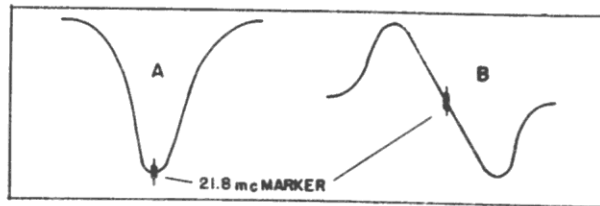

Fig. 10. Audio I-F Curves
**1. Sound I-F Alignment**—The sweep generator is connected through a 500 mmf. capacitor to the grid of the tube preceding the sound i-f coil to be aligned. Connect the oscilloscope through a 100,000-ohm resistor across the resistor, R104, in the limiter tube, V18 grid. Insert a 21.8 mc marker signal from an unmodulated signal generator into the grid of V3. Keep the marker signal attenuated so that it just shows a marker on the sweep curve. Adjust L21 and L5, respectively, as you advance progressively one stage at a time, for maximum gain and symmetry of the response curve about the 21.8 mc marker. The curve should be similar to that shown in Figure 10(A). With input at the 1st audio i-f, V22, the bandwidth should be approximately 500 kc at the 70% response point.
For discriminator alignment, the secondary core of the discriminator transformer, T19, is aligned by using a tone modulated 21.8 mc amplitude modulated signal and listening to the tone at the loudspeaker. This adjustment is made for a minimum tone signal output. Apply the signal generator input to the grid of V22. If the sweep is used for the secondary alignment, the crossover should be symmetrical about a 21.8 mc marker and should be a straight line between the alternate peaks as shown in Figure 10(B). For the discriminator transformer primary alignment, connect the oscilloscope to the junction of C74 and R86. With the same sweep input as in Step 1, adjust the primary adjustment screw for a maximum peak-to-peak amplitude of the response curve as shown in Figure 10(B).